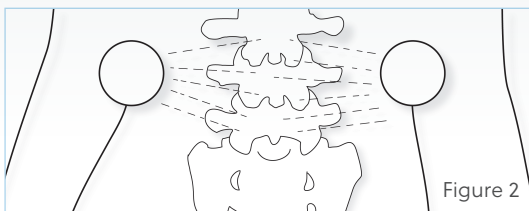

Figure 2
- **Note:** To ensure electrode placement and adhesion, you may use one of the provided electrode retainer patches. Place one electrode two to three inches to the left of the area of the surgery and a second electrode two to three inches to the right of the area of the surgery so that the electrodes are four to six inches apart. See Figure 2. Depending on the patient's ability to move after surgery, it may be helpful for the patient to ask another person to assist them in placing the electrodes. See instructions for use on Page 10. The patient should consult their prescribing physician or Customer Service if they have any questions or concerns regarding proper electrode placement. If their skin becomes abnormally red at the electrode sites, the electrodes should be moved adjacent to the original sites. If the redness does not go away after 48 hours with the electrodes removed, the patient should contact their prescribing physician.